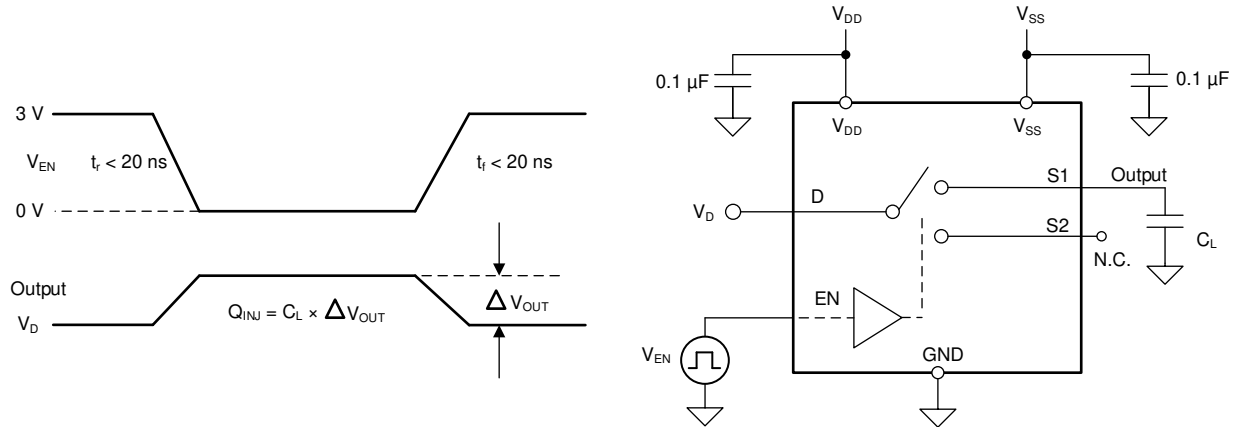

图 7-9. Charge-Injection Measurement Setup
The TMUX7219-Q1 has a transmission-gate topology. Any mismatch in capacitance between the NMOS and PMOS transistors results in a charge injected into the drain or source during the falling or rising edge of the gate signal. The amount of charge injected into the source or drain of the device is known as charge injection, and is denoted by the symbol Q_C . 图 7-9 shows the setup used to measure charge injection from source (S_x) to drain (D).